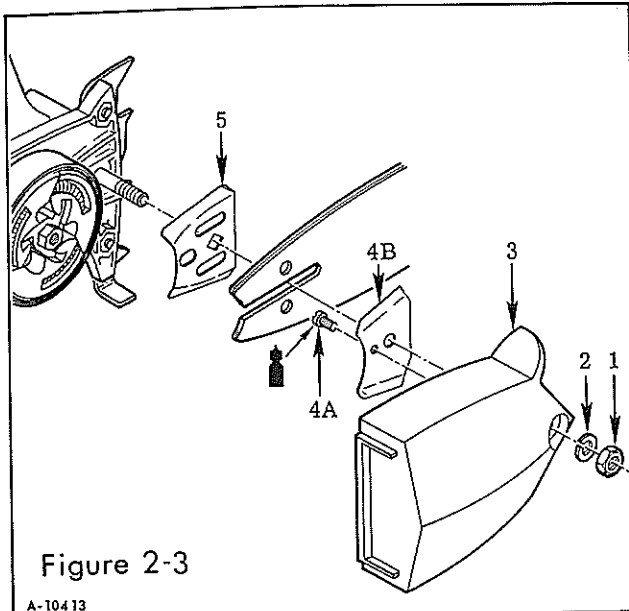

Figure 2-3
Remove the bar mounting nut (1, Figure 2-3) and washer (2) to remove the clutch guard (3). The outer bar plate (4B) is fastened to the clutch guard with a screw (4A). Remove the chain and bar to remove the inner bar plate (5) which fits onto the bar mounting stud and bar pin.